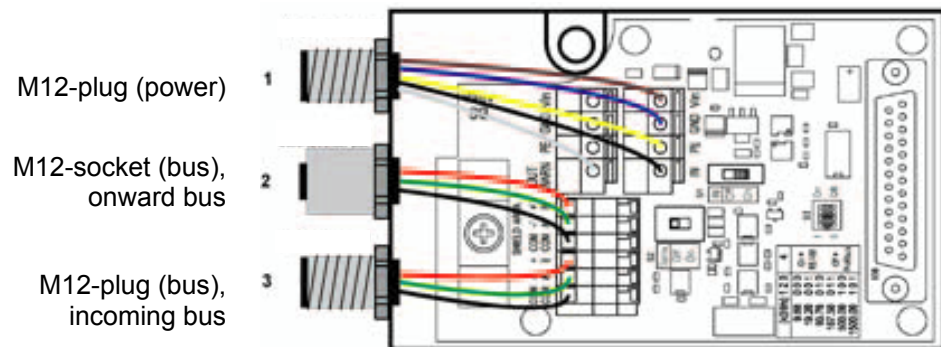

Figure 6-2: Installation and connection of the optional M12 connectors
5. Connect cables acc. to Figure 6-2 and Table 6-1.